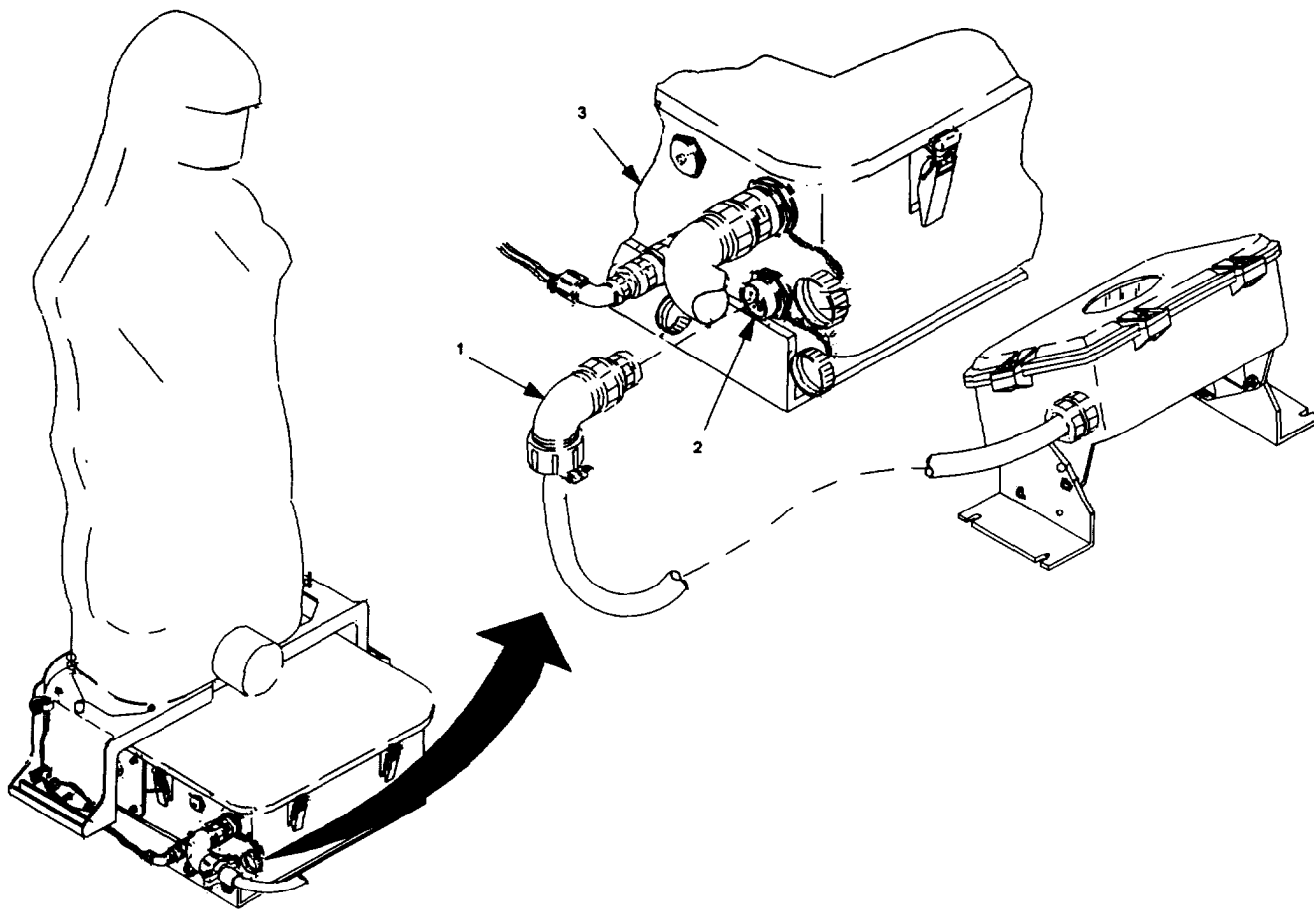

Figure 2-8. Connection of MFS to ITM.
- (5) Refer to figure 2-8. Connect connector P1 (1) on MFS cable assembly to connector J4 (2) on ITM (3).
- (6) Set circuit breaker CB1 on ITM to POWER ON.
- (7) Set circuit breaker on ICB to ON.
- (8) Perform ITM self-test (reference paragraph 2-4b).
- (9) Contact RCS - ERETS to run test of ITM. Observe operation of ITM and report any malfunctions to unit maintenance.